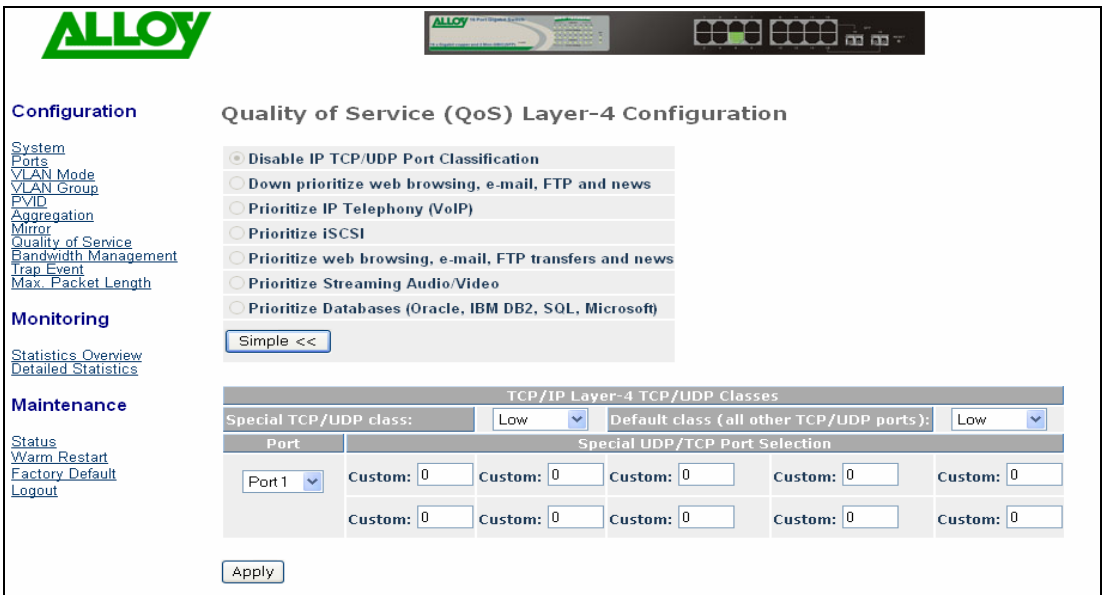

Fig. 3.18
- **Advanced/:** Toggle the **<Simple>** / **<Advanced>** button to switch between configuration modes and to display details on the TCP/UDP ports configured (See Fig 3.18). When Advanced Mode options are toggled, they will appear on the same screen below the items for “Simple Mode” configuration.
The Advanced Configuration Mode interface box allows you to further customise the initial simple configuration defaults with your own TCP/UDP port definitions, or to create your own definition list from scratch. (Refer to Fig 3.18)